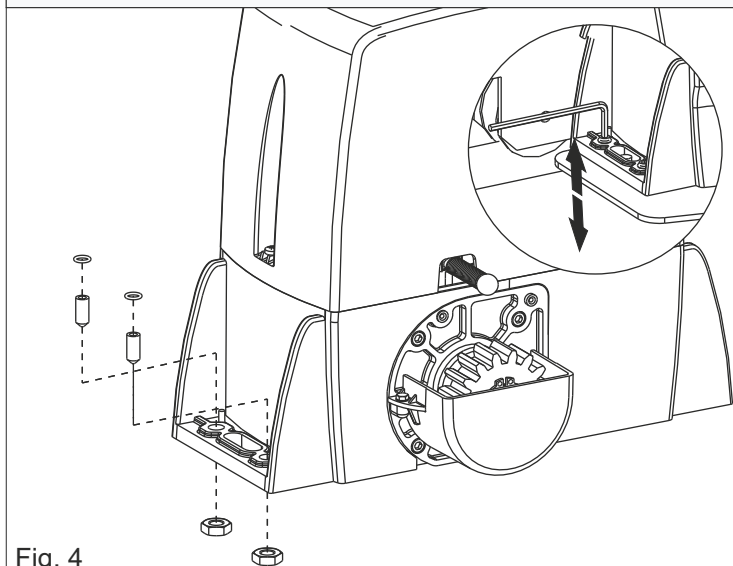

Fig. 4
**4.1.** Insert the 4 grub screws into the special holes, in order to adjust the gearmotor height on the plate (Fig. 4)